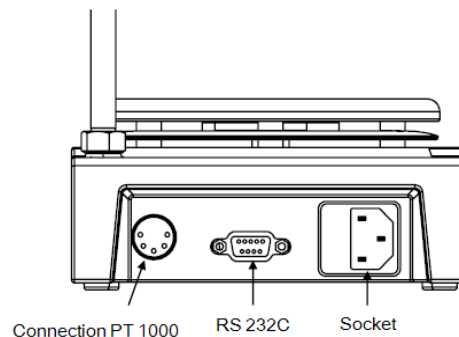

Figure 8
- The functions of the interface lines between laboratory instrument and automation system are selected from the specified signals of the EIA-standard RS232C, corresponding with DIN66020 Part 1. The allotment of the bushing can be taken from Figure 8.